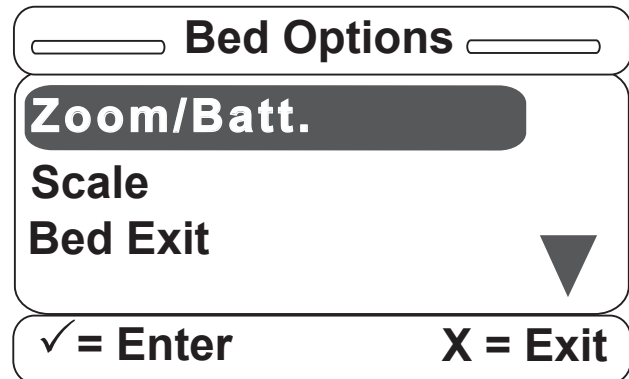

Figure S-5
5. Once the Bed Option item is selected, the menu in Figure S-5 will be displayed on the screen. **Each option must be set to OFF, ON or a variety of the option** (i.e., Zoom/Batt. or Bed Exit). **Configure each option in the order presented on the screen** (i.e., set the Zoom/Batt option before the Scale option, which should be set before the Bed Exit option, which should be set before the Awareness option).